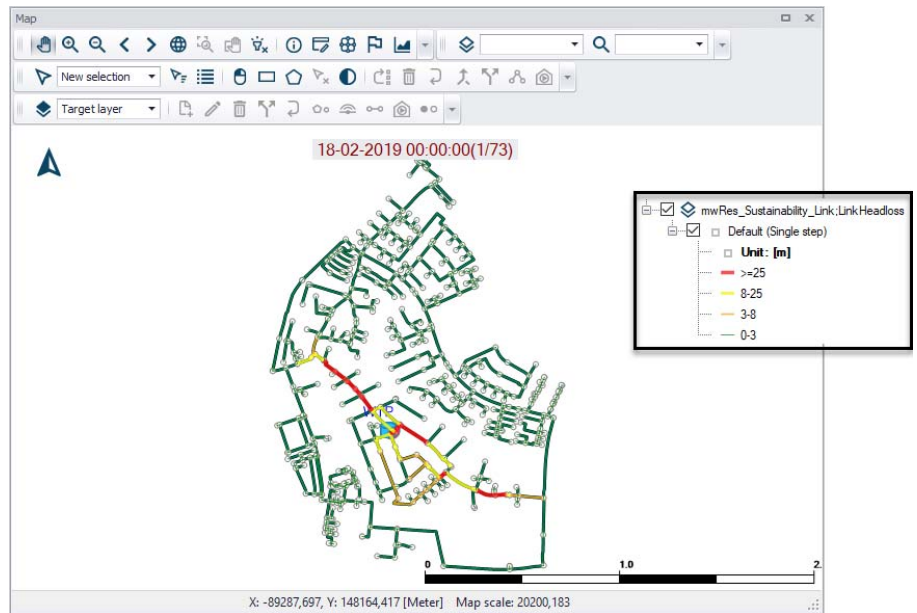

Figure 20.112 Example Sustainability Analysis Unit Head Loss results on the Map
Results from running the tool are added to the Map (Figure 20.112).
- Unit head loss: Link head loss per 1000 (see Figure 20.112)